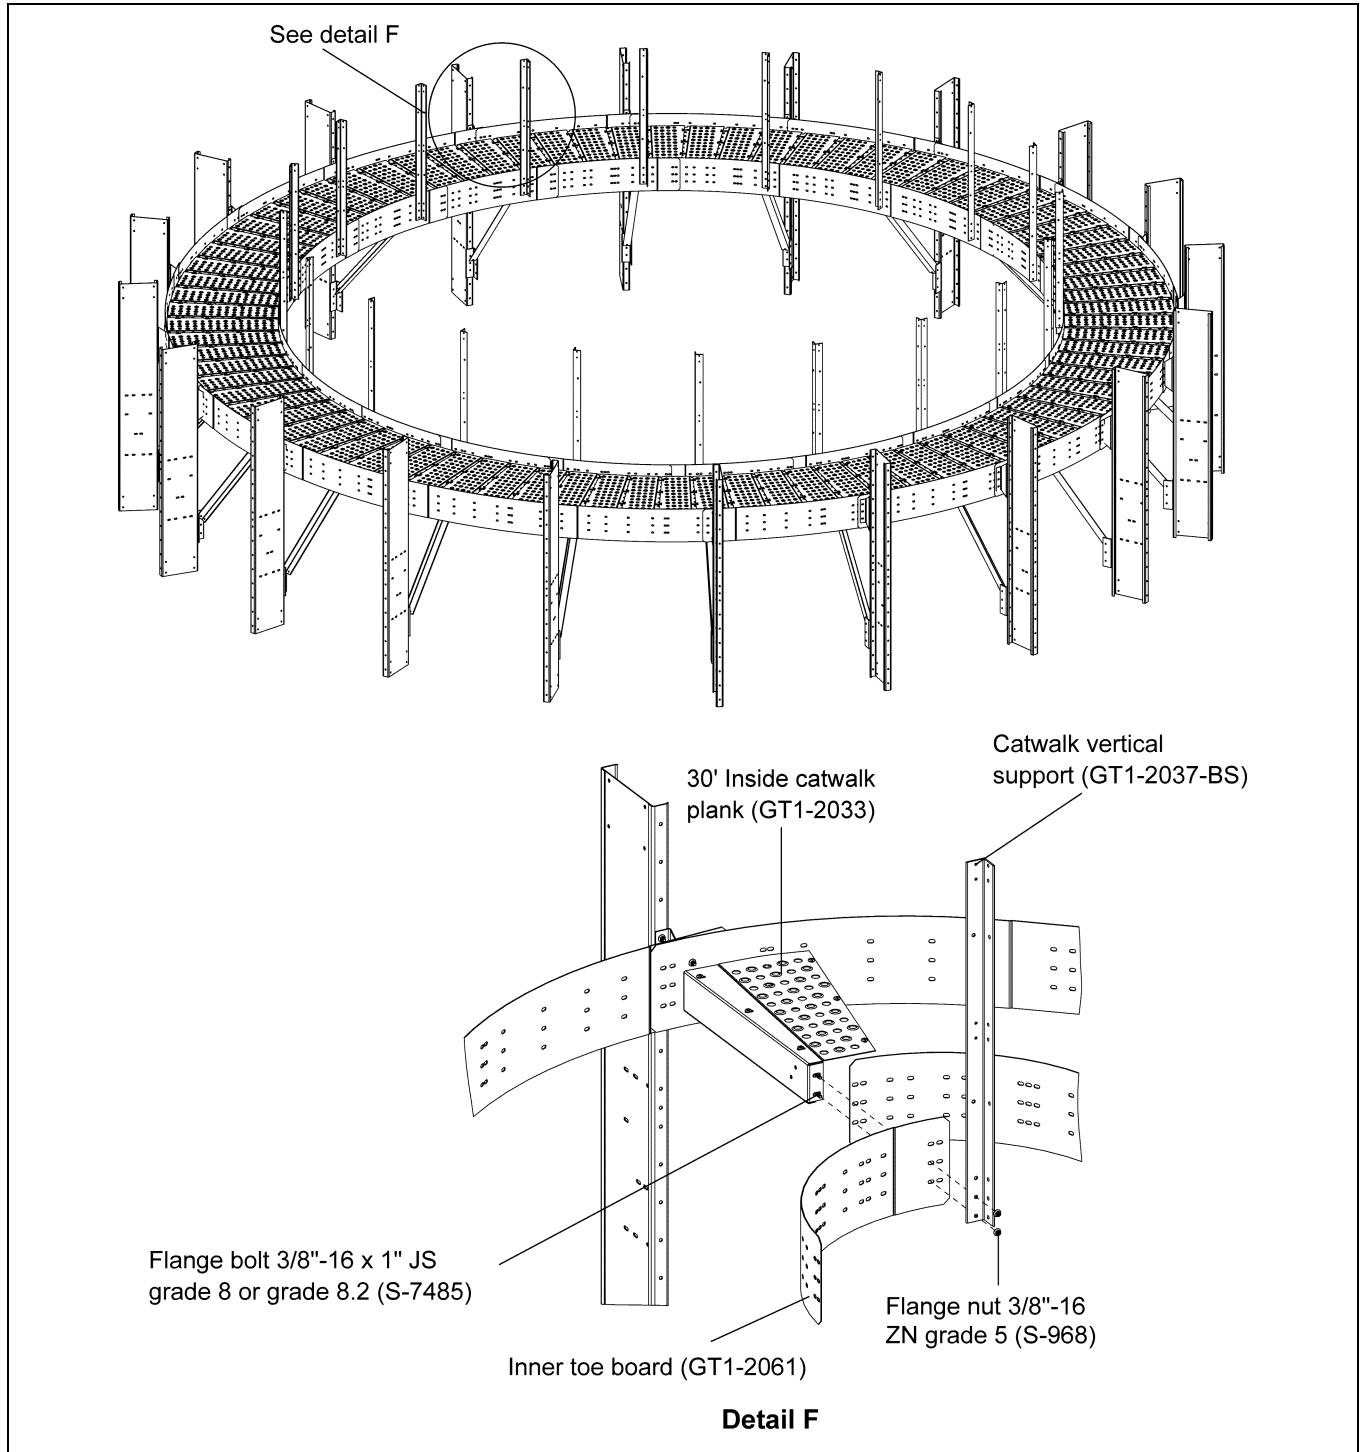

Figure 5J
1. Install all the inner toe boards (GT1-2061) to the planks (GT1-2060). (See Figure 5J.)
2. When installing the inner toe board with planks, install the catwalk vertical support (GT1-2037-BS) simultaneously at proper locations using 3/8"-16 x 1" JS grade 8 or grade 8.2 bolts (S-7485) and 3/8"-16 ZN grade 5 nut (S-968). (See Figure 5J.)